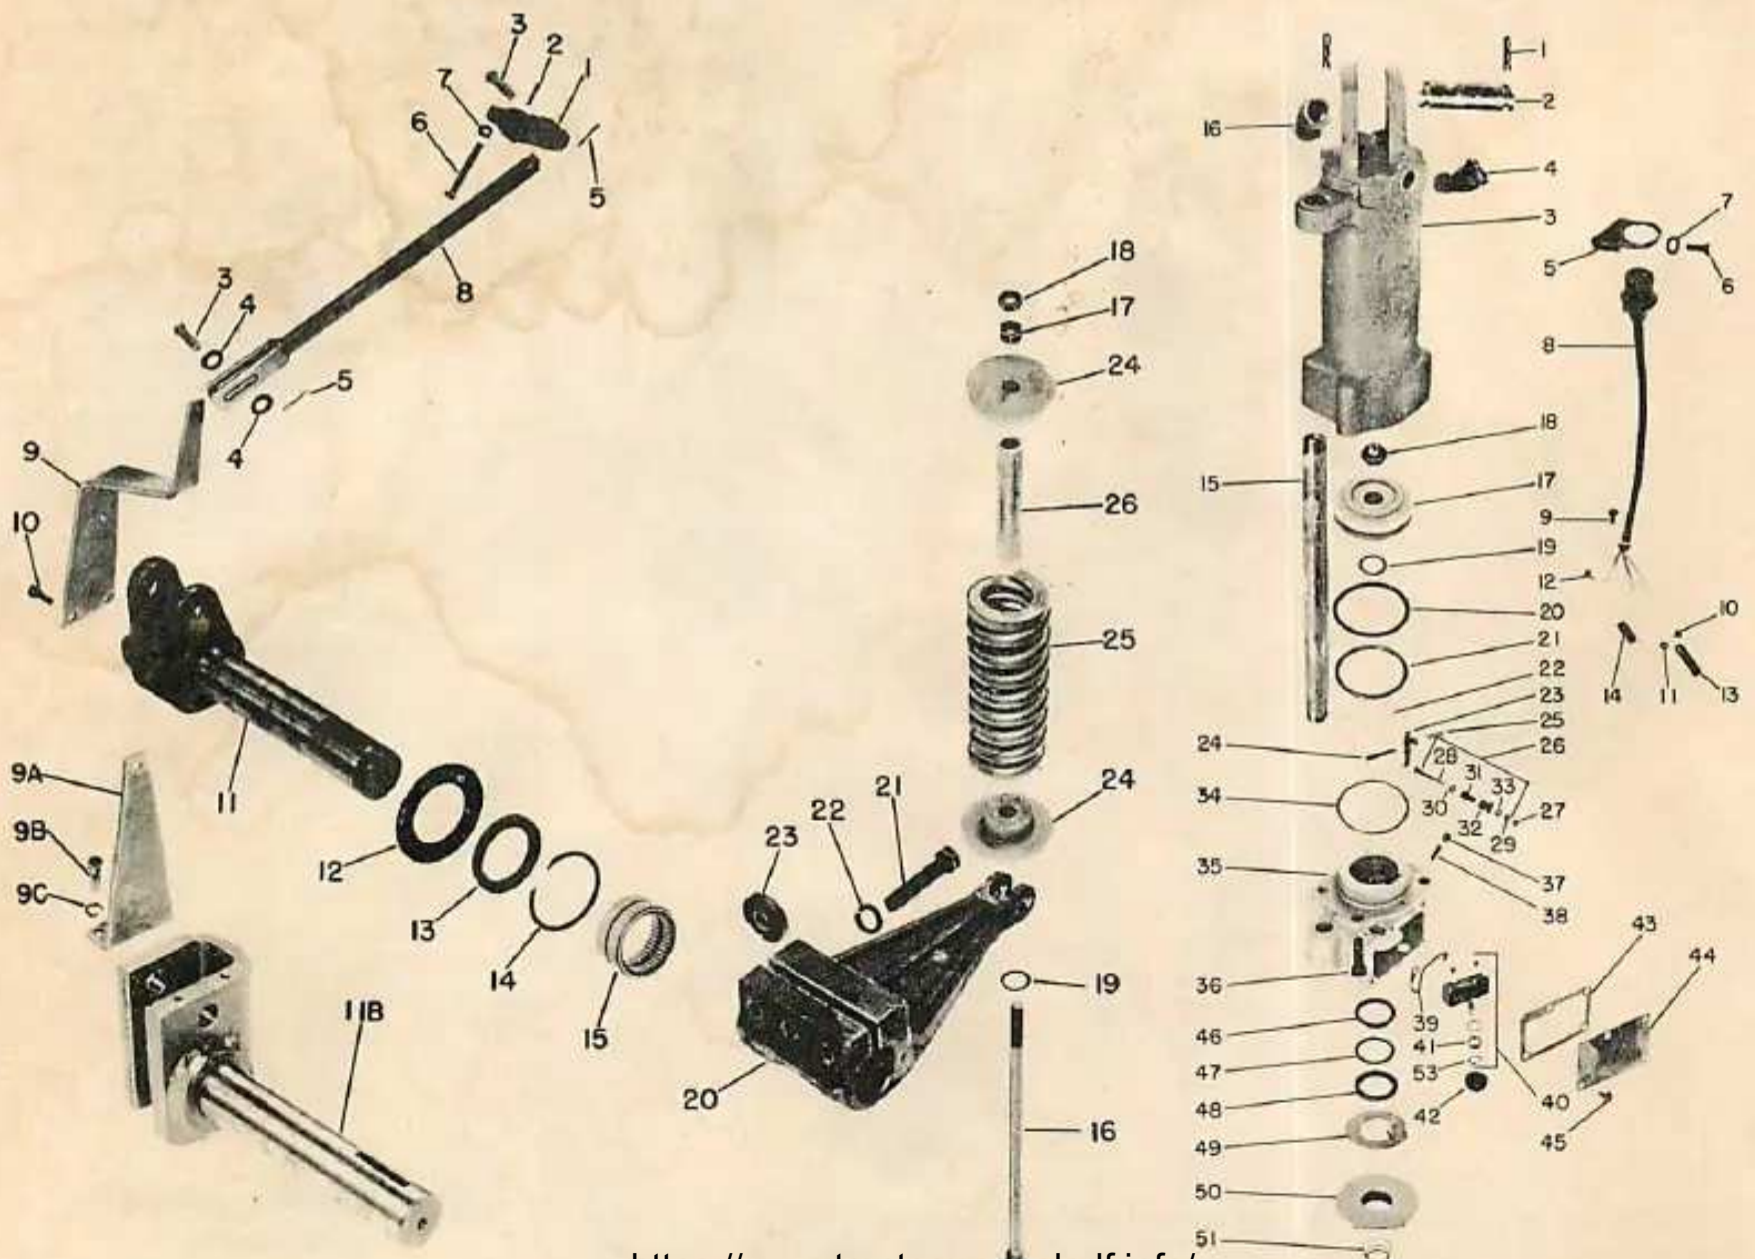

Fig. O161—Exploded view of the draft control actuating assembly used on Utility models.
Reassemble by reversing removal procedure using Fig. O161 as a guide on Utility models and Fig. O160 for all other models. Adjust draft control spring as outlined in paragraph 260.
260. **ADJUST DRAFT CONTROL SPRING.** On all models, turn nut (23—Fig. O160 or 17—Fig. O161) down until all free play is removed from draft control spring, then continue to tighten the nut an additional 2½ turns, or until spring is compressed ⅛-inch from its free length. Then, tighten the jam nut (24—Fig. O160 or 18—Fig. O161) to retain adjusting nut in this position.
Fig. O160 — Exploded view of draft control actuating assembly used on all tractors equipped with draft control (3-point hitch) except Utility models. Refer to Fig. O161 for
259. R&R AND OVERHAUL. With units removed for access as noted in paragraph 258, refer to Fig. O160 and proceed as follows: Loosen jam nut (24), then remove the jam nut and adjusting nut (23). Remove retainer (31) and spring (30). On utility models, remove retainer (24—Fig. O161) and spacer (26), then withdraw bolt (16) from bottom of main frame. On all other models, remove guide (29—Fig. O160), then unbolt and remove support (26) and spacers (25) from rear main frame. On all models, refer to Fig. O160 and remove cap screws